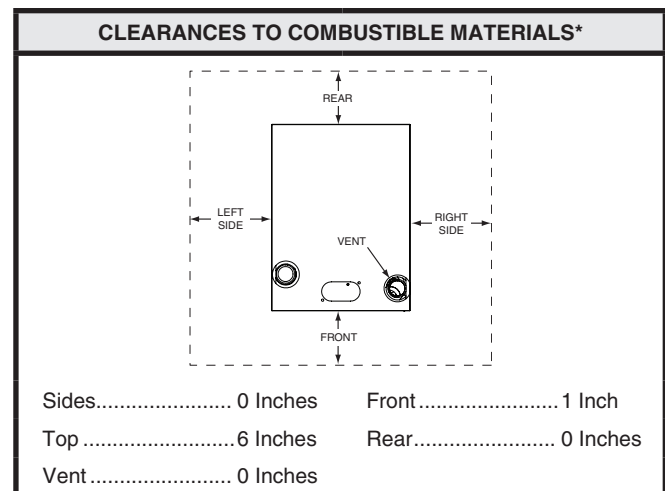

Figure 1. Minimum Clearances
- The area around the gas furnace (Figure 1, page 4) and the vicinity of any other gas appliances must be kept clear and free of combustible materials, gasoline, and other flammable vapors and liquids. Do not store or use flammable items such as paint, varnish, or strippers in the vicinity of the unit.